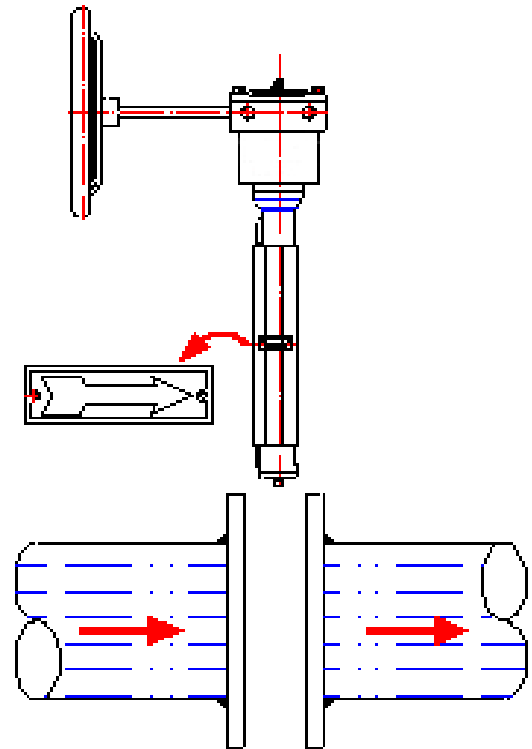

Fig. 3
- The arrow on the valve body indicates the preferred flow direction. It also indicates the high pressure side of the valve, obtaining the best closure performance. During installation the best valve position must be determined in order to utilize this feature. This may not necessary be the common flow direction of the system Fig.3)